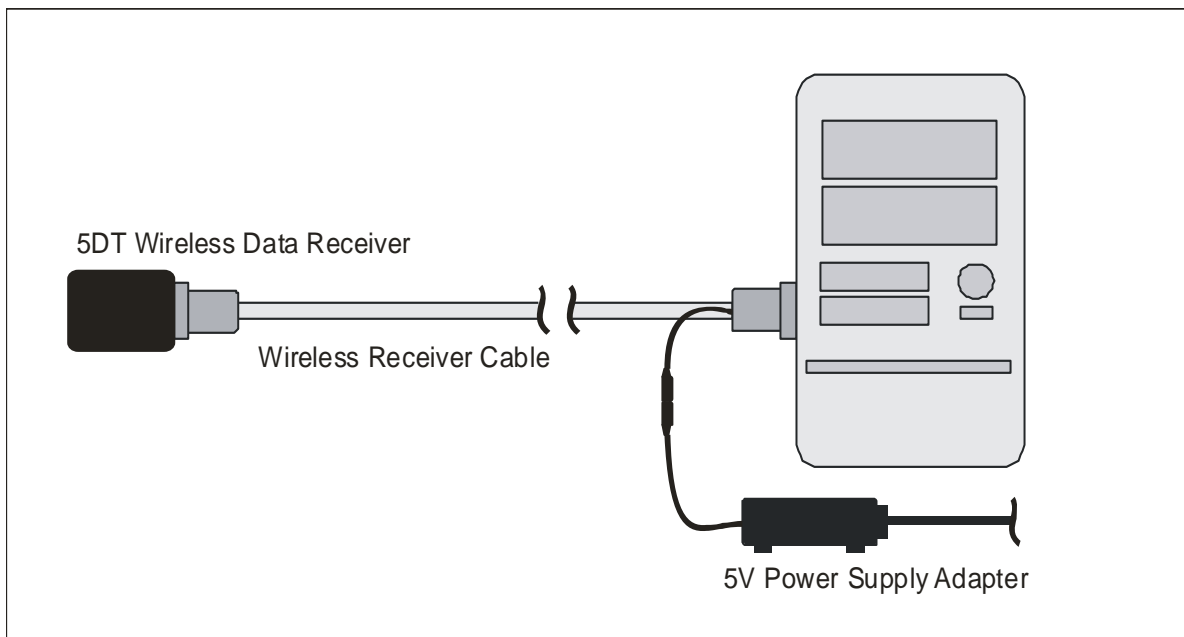

Figure 5 – Connecting the Wireless Kit – Receiver Side
Connect the receiver (4) to the receiver cable (10) and connect the power supply (8) to the receiver cable as in Figure 5. Plug the female end of the receiver cable into an available COM port on the PC and plug in a standard PC power plug into the power supply.